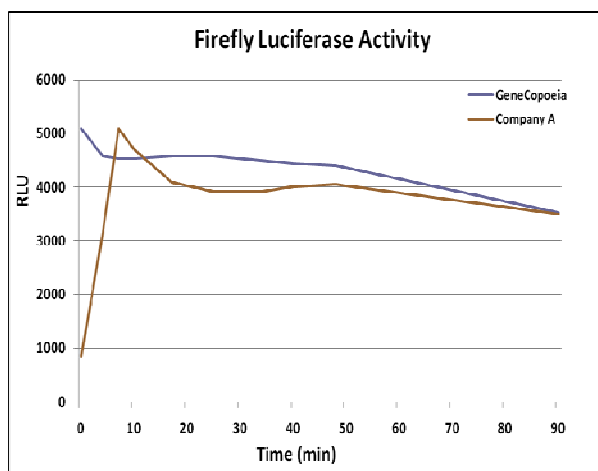
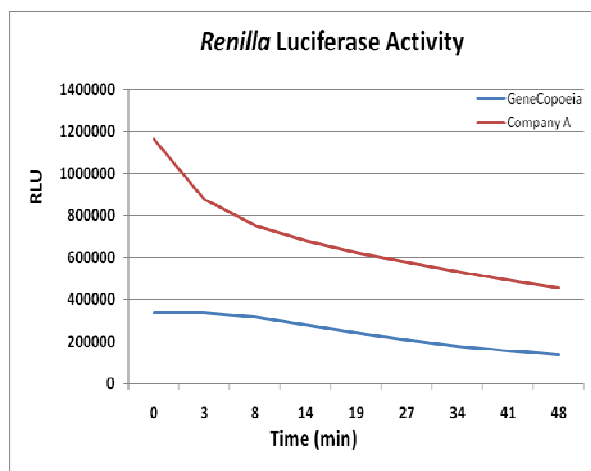

Figure 3a
Figure 3b
**Figure 3. Stability of firefly luciferase and *Renilla* luciferase signals using GeneCopoeia Luc-Pair miR Luciferase Assay.** HEK293 cells were plated on a 6-well plate. On the second day, the cells were transfected with GeneCopoeia pEZX-MT01 miRNA reporter vector. The cells were transferred to a 96-well plate 18 hours after transfection and cultured for another 24 hours. Luciferase assays were then performed as described in the procedure and data was recorded on Victor II machine at different time points. The Company A's two-luciferase assay kit was used as control. Figure 3a: stability of the signal from firefly luciferase activity; Figure 3b: stability of the signal from *Renilla* luciferase activity.